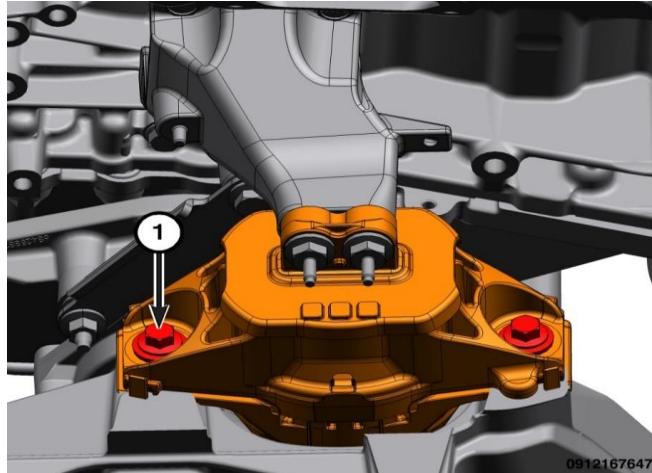

Figure 3.
4. Loosen the left engine mount bolts. (Figure 3)